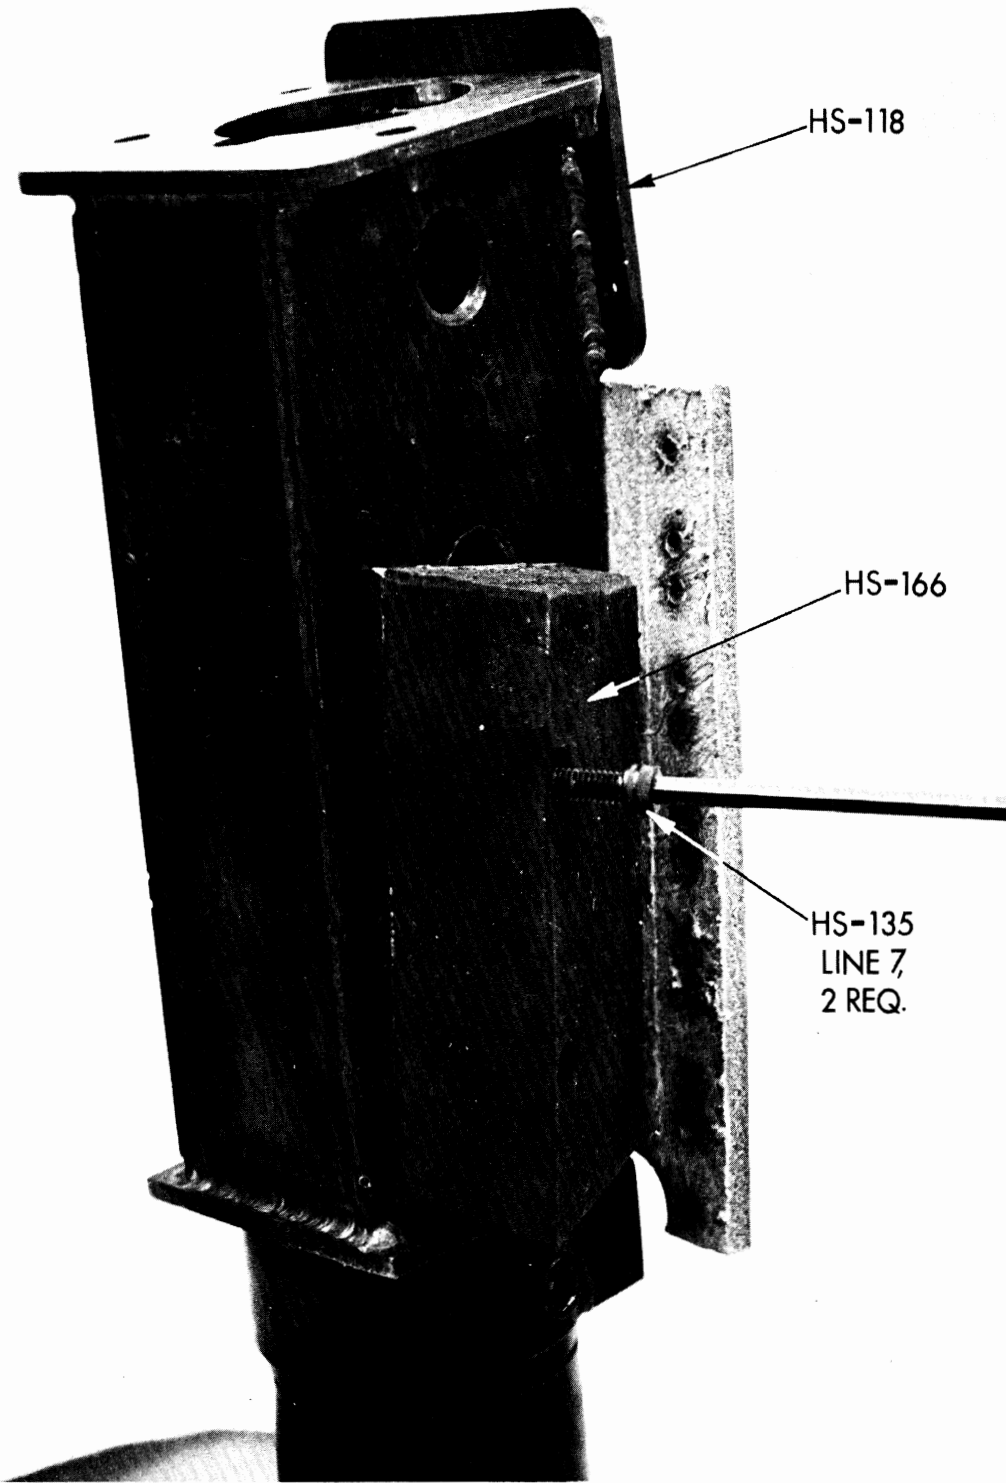

FIGURE 20
3.) Remove the two 1/4-20 bolts holding the anti-bottoming pad, HS-166, to the thorax assembly. See Figure 20.